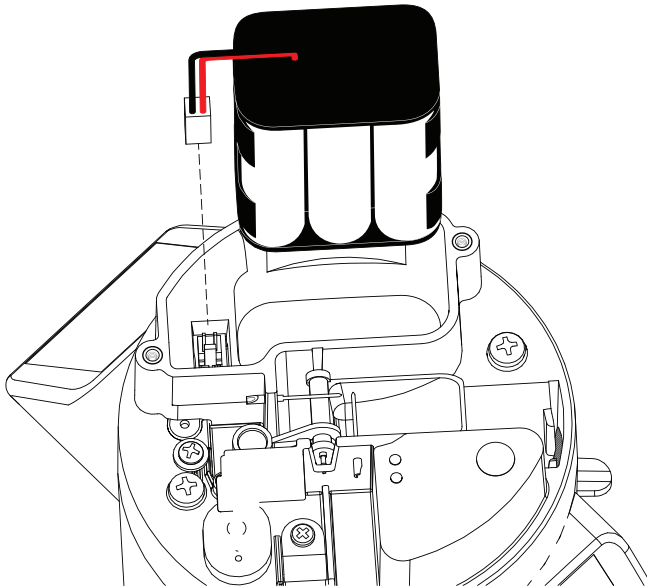

Figure 27 Battery pack with cable oriented for replacement
1. Hold the battery pack with the cable as shown in Figure 27.